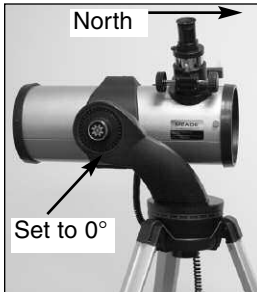

Fig. 22: To set the telescope in the home position, first line up zero with the molded pointer to level the optical tube. Then point the telescope North.
4. Point the telescope North. Use a compass or the North Star, Polaris as a guide to locating North. See **Fig. 31, page 35**. Also, See **Fig. 22**.